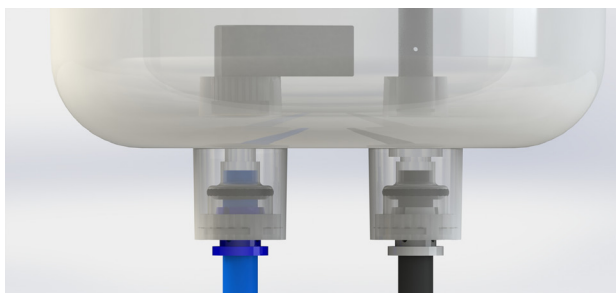

Figure 1
It is imperative that the handpiece tip and sealing o-ring be installed correctly and securely to avoid damage or leaks. Install in the manner shown in Figure 1 and ensure the tip and o-ring sit evenly in the assembly.
4. Using the new tubing, feed it through the handle with a twisting motion. Once the tubing extends several inches past the front of the handle, press the handpiece insert ③ fully into the end of the tubing until the tubing is flush with the front of the insert. Moistening the tubing may help with installation.
5. Pull the tubing back into the handle until the insert collar sits firmly against the end of the handle. Pull the tubing through the rubber grommet, blow out tank bottom fitting and re-attach it to the sand tank assembly by pushing it into the quick-release fitting. Visually make sure the tube travels past the black seal looking through the transparent raised area (Fig. 1). Re-assemble the O-ring, tip and nozzle cap to the handle.